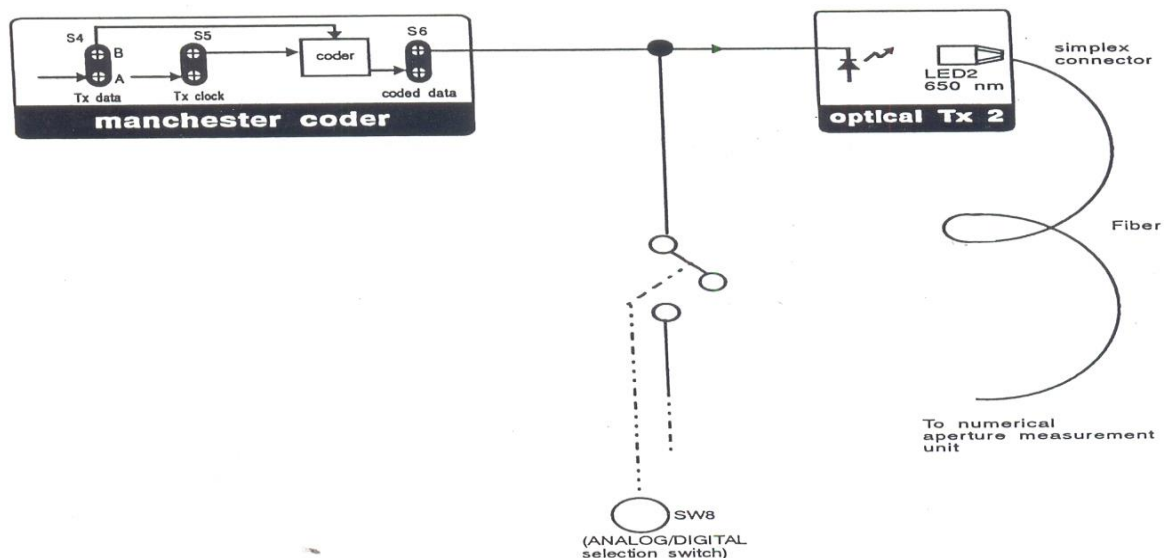

Fig 1: optical Numerical Aperture kit
1. Refer to Fig.1 and make the following connections.